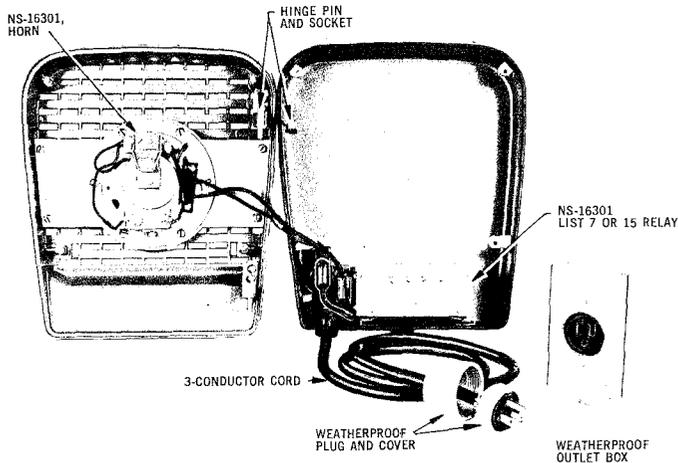

Fig. 6 - Complete Assembly, Outdoor Dual Potential, Horn
3.11 Each back box is equipped with two sockets which engage with two pins of each front cover to form a hinge (see Fig. 6). The signal fastens to the back box with four machine screws which are furnished with the grilled cover. Be sure that the gasket on the back box is in place. For outdoor use, the rain hood mounts on the cover with three machine screws.